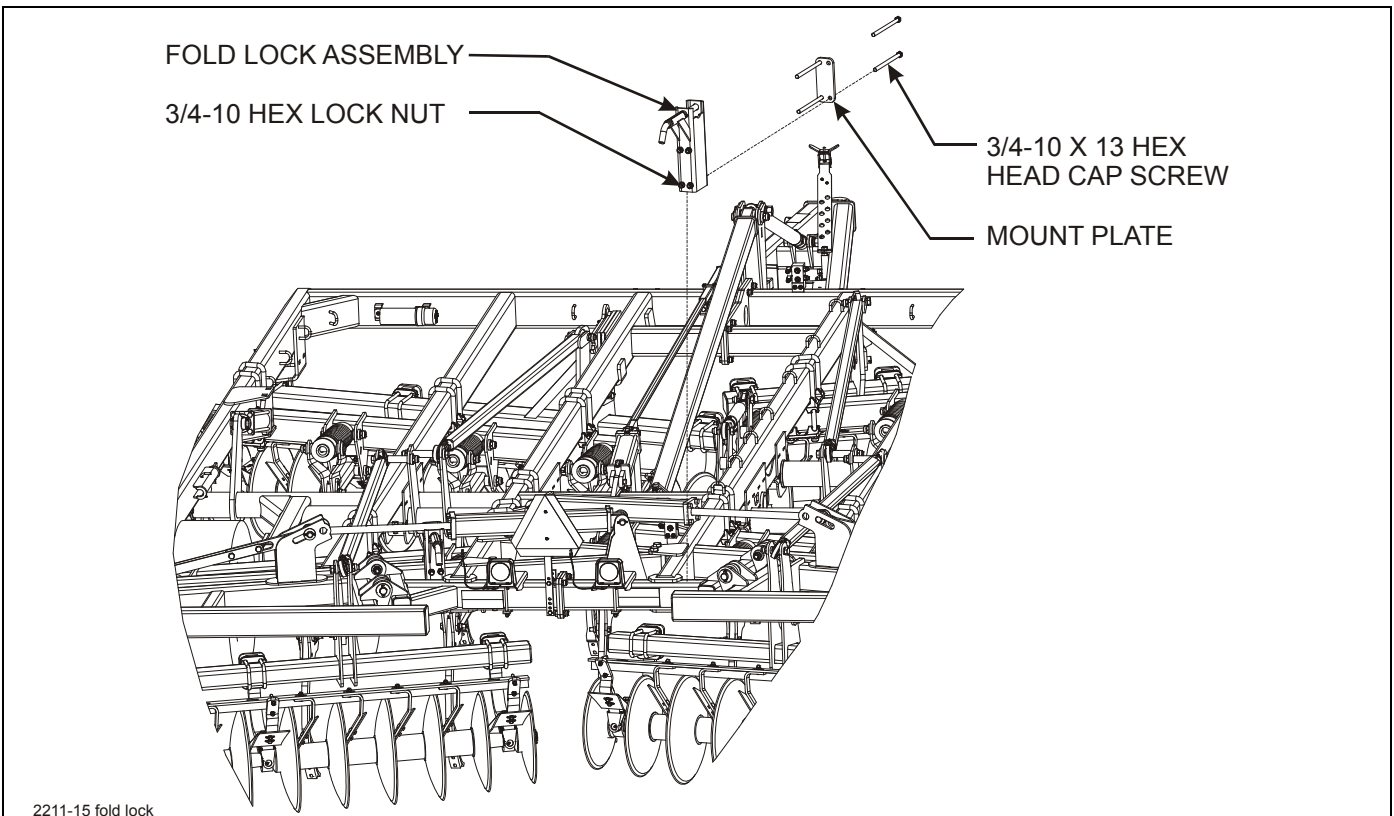

Figure 3-4: Fold Lock Assembly
2. Install 3/4-10 x 13 hex head cap screws and lock nuts to hold the fold lock and mount plate in place. Do not tighten screws (See Figure 3-4.)